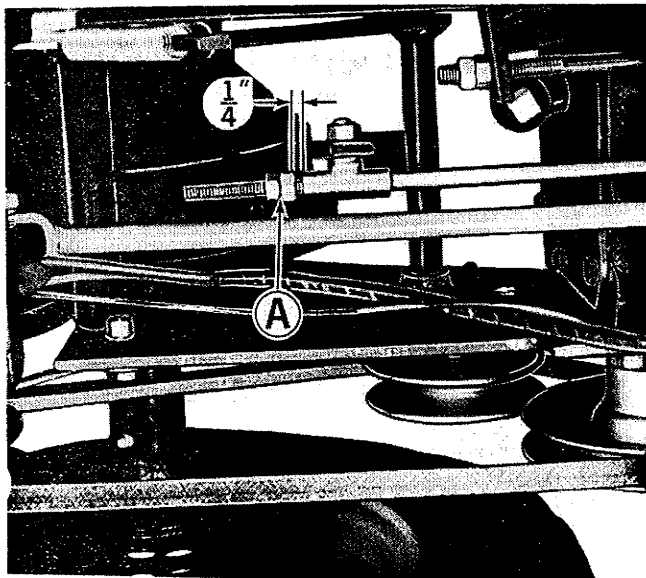

Figure 10. Clutch free travel adjustment.
See figure 10. The clutch free travel is correct when there is $1/4''$ between the nuts (A) and the rod guide when the clutch brake pedal is released and pulled rearward as far as it will go. If adjustment is required, proceed as follows:
2. Using two wrenches hold the forward nut at (A) stationary with one wrench while turning the rearward nut counter-clockwise slightly with the other to separate them.
4. Turn the forward nut at (A) as necessary so that the distance between it and the rod guide is $1/4''$ as shown in figure 10.
5. Using two wrenches hold the forward nut at (A) stationary while turning the rear one clockwise to tighten the two nuts together securely.